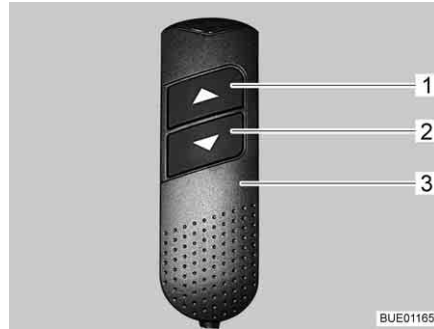

Fig. 111 Manual control unit
- On the manual control unit (Fig. 111,3) push the "▼" button (Fig. 111,2) and keep it pressed. The foot section is retracted. The head sections are raised.
- On the manual control unit (Fig. 111,3) push the "▲" button (Fig. 111,1) and keep it pressed. The foot section is extended. The head sections are lowered.
- On the manual control unit (Fig. 111,3), press the "▼" button (Fig. 111,2) or "▲" button (Fig. 111,1) until the desired position is reached.